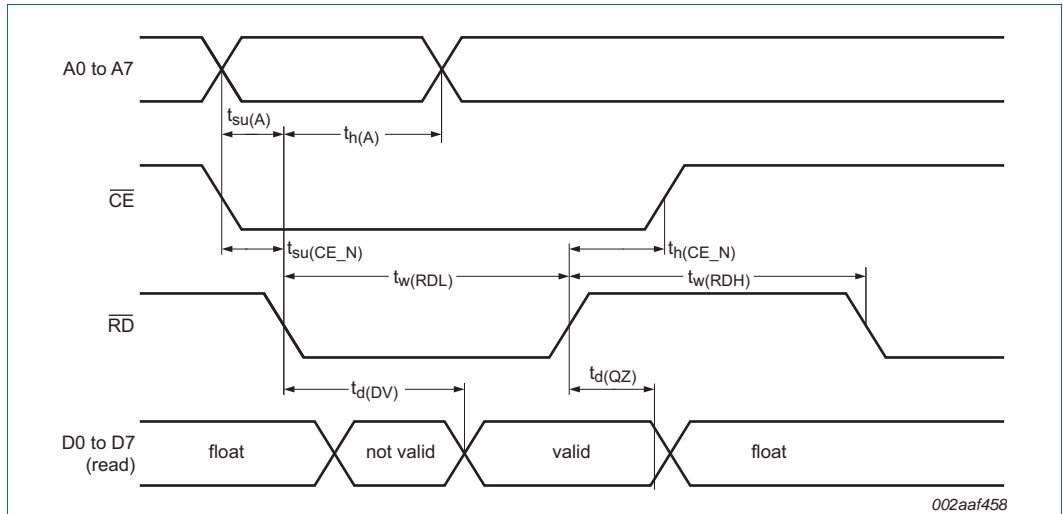

Fig 27. Bus timing (read cycle)
Bus timing (see Figure 27 and Figure 29)
- [2] All voltage measurements are referenced to ground ( $V_{SS}$ ). For testing, all inputs swing between 0 V and 3.0 V with a transition time of 5 ns maximum. All time measurements are referenced at input voltages of 1.5 V and output voltages shown in Figure 27 and Figure 29.